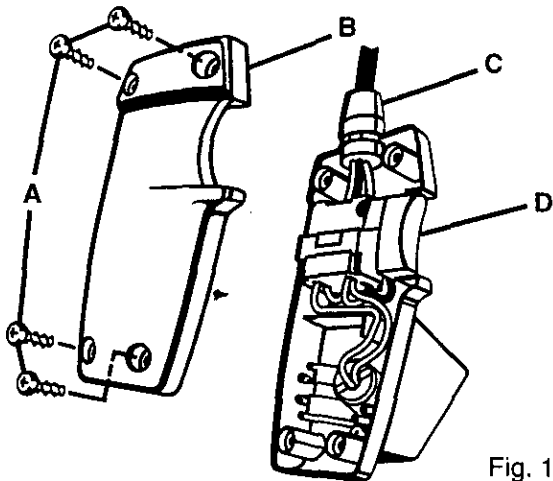

Fig. 15
See Figures 15 and 16.
See Figure 15.
- Note the location of the molded bend relief (C) on the power handle cord. Also note all wiring in the handle and how each lead is connected to the switch. Connections and wiring position must be identical when installing new switch. See Figure 15.